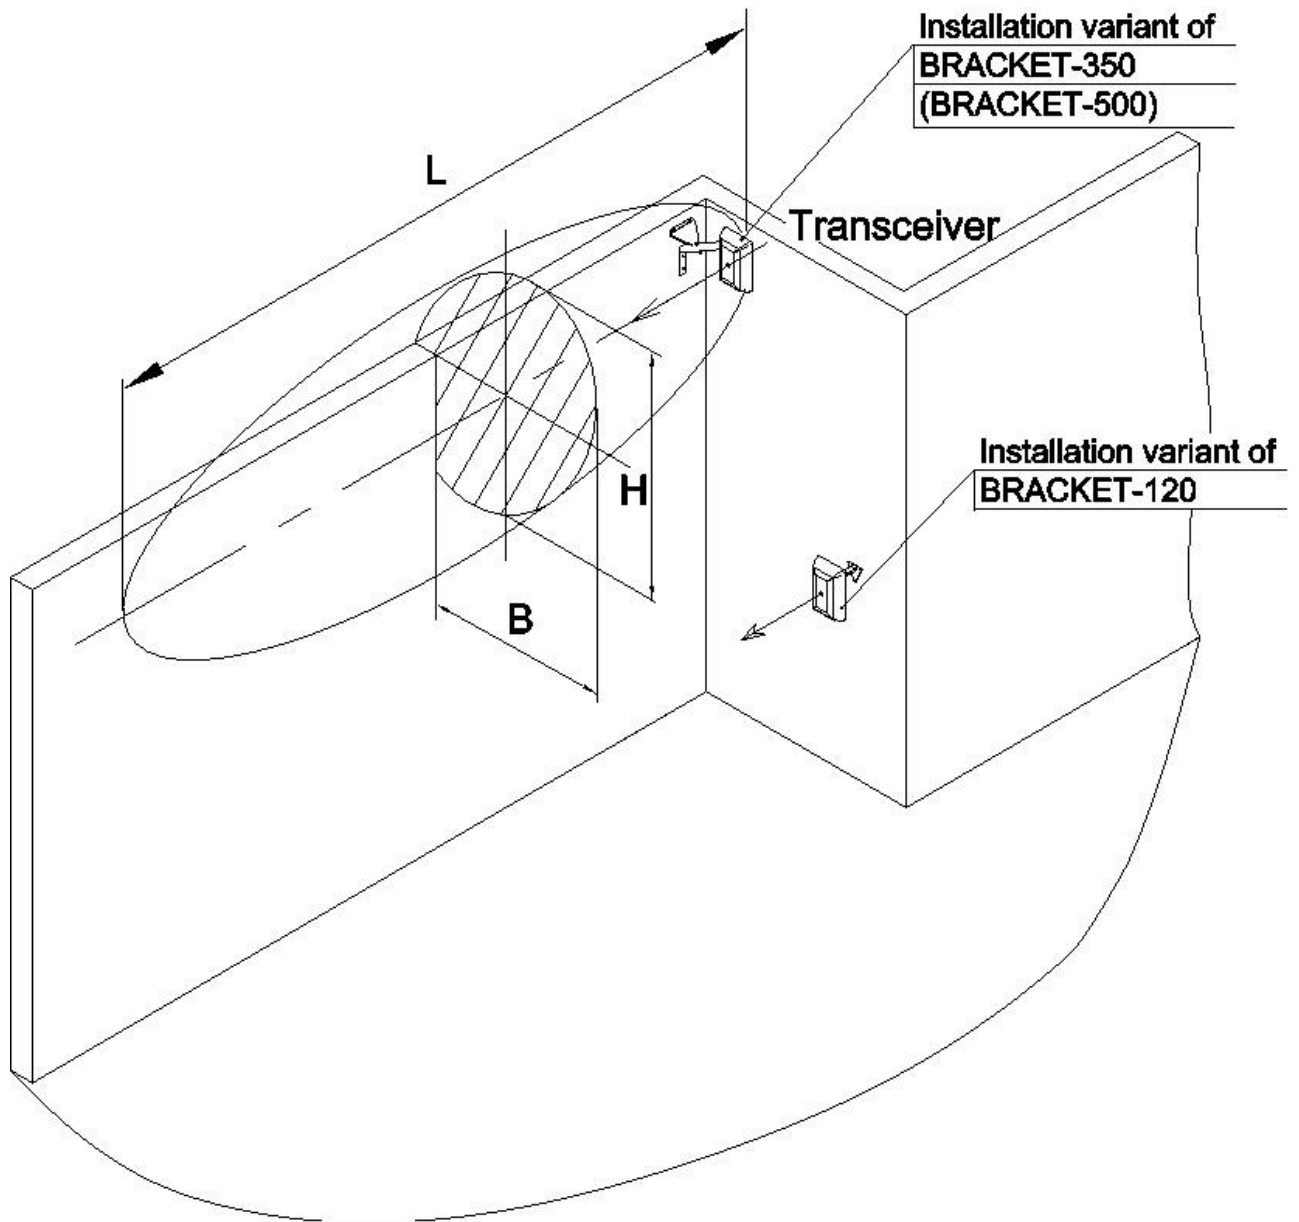

Figure 2.5 – Mounting of the sensor on brackets 500, 350, 120 mm
2.3.5.8 Figure 2.5 shows mounting of the sensor using brackets 500, 350 120 mm